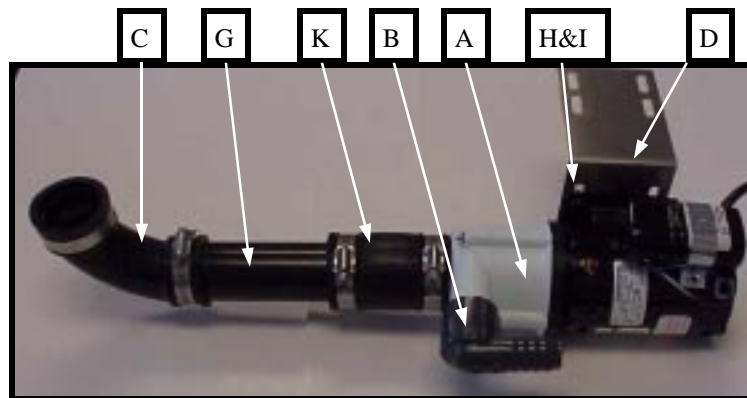

Fig. 1
- 3- Thread 1" elbow (B) on discharge port of pump as shown in Fig. 1.
4- Assemble the Pipe coupling (K), suction tube (G) and Elbow (C) as shown in Fig. 1 and install this assembly on the suction port of the pump (A).
5- Using provided 1/4" nuts and bolts (H&I), install drain pump bracket (D) On drain pump motor (A) as shown in Fig. 1. (HAND TIGHTEN ONLY AT THIS TIME).